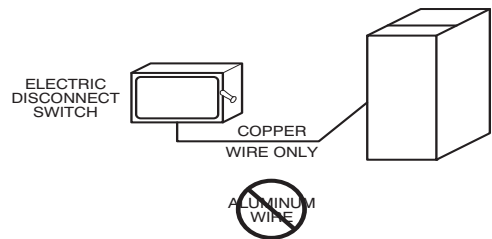

Fig. 34 – Field-Supplied External Electrical Box on Furnace Casing
Use only copper wire. See Fig. 34.
1. Drill two (2) 1/8-in. (3 mm) pilot holes through the dimples in the furnace casing near the 7/8-in. knock-out on the side of the casing. Do not remove the knock-out in the side of the casing.
- Connect field power and neutral leads to furnace power leads inside the external electrical box as shown in Fig. 34.